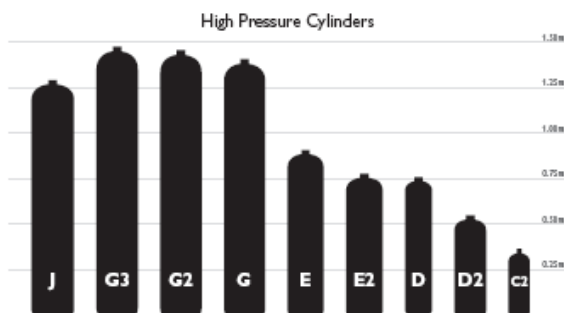

Figure 1: Size range of high pressure gas cylinders available
1. High Pressure Cylinders – High pressure cylinders come in a variety of sizes, see Figure 1. Some examples of gases supplied in High pressure cylinders include Nitrogen, Helium, Hydrogen, Oxygen and Carbon Dioxide.